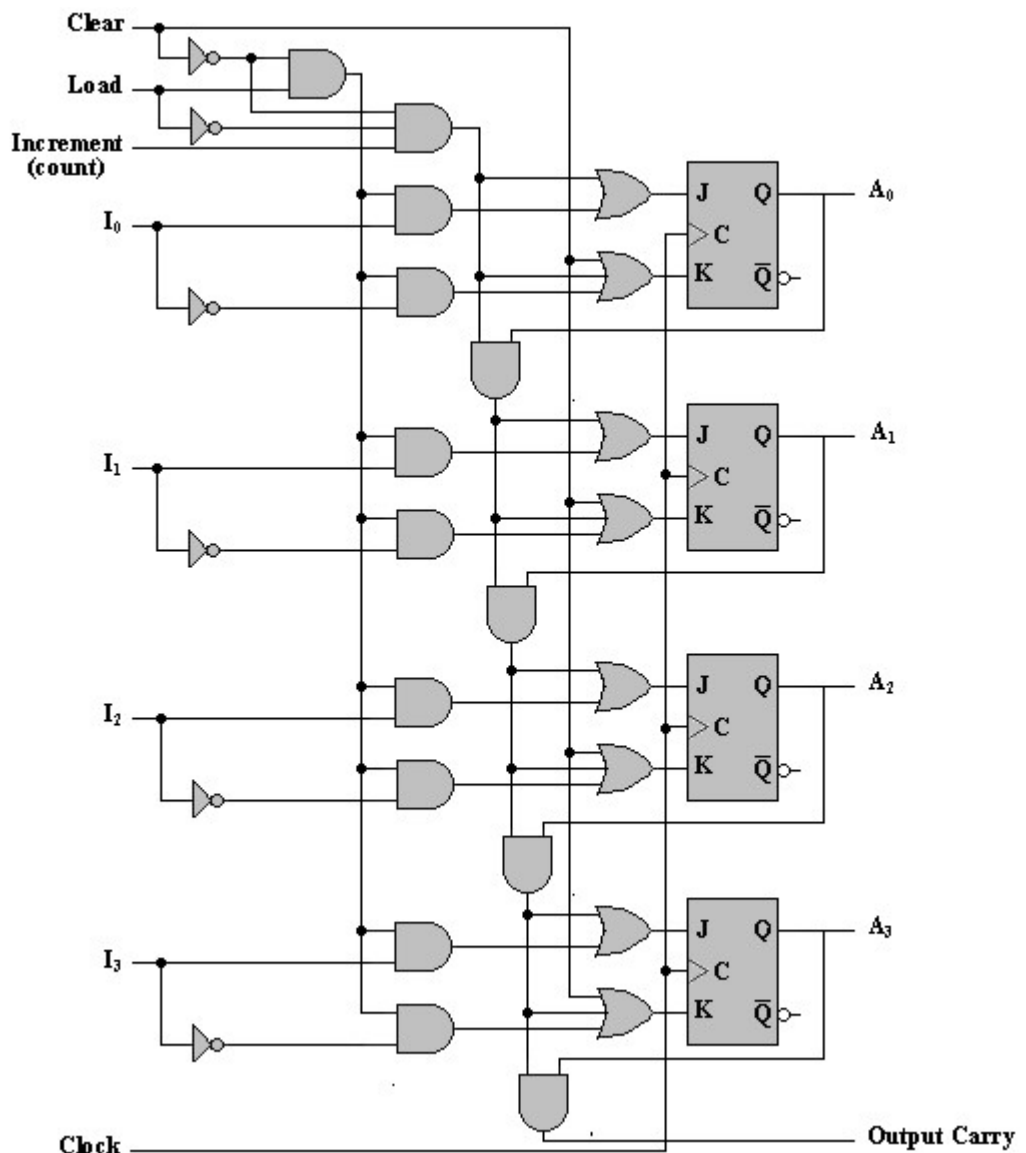

Figure 6.22
Figure 6.22 shows the internal construction of the accumulator register AC. Each stage has a JK flip-flop, two OR gates, and two AND gates. The load (LD) is connected to the inputs of the AND gates.